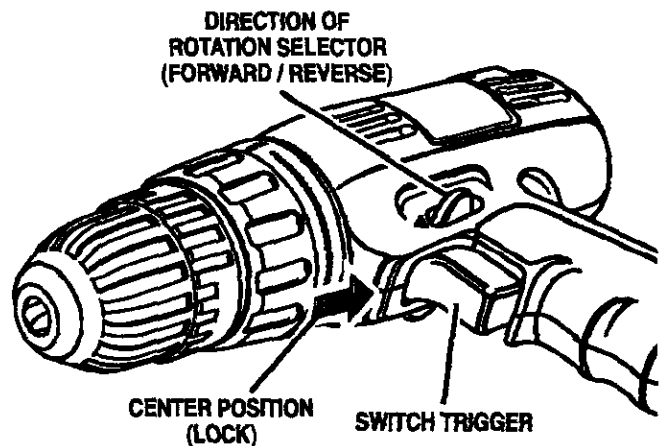

Fig. 3
- Lock switch trigger on your drill by placing the direction of rotation selector in center position. See Figure 3.
- Place the direction of rotation selector in center position. See Figure 3. This will turn off the power to your drill.